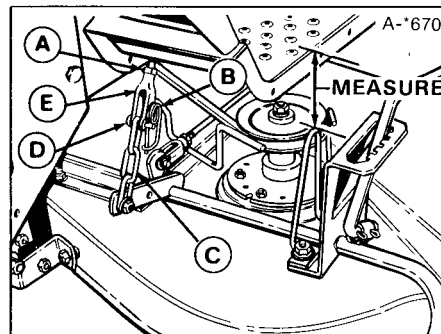

Figure 38. Lift Assembly - Small Lift Lever
2. Measure the distance between top of upstop bracket and bottom of footrest (figure 38). The measurement should be 2-13/16.
3. To adjust, disconnect clevis (E) from chain. Loosen nut (A) and turn clevis to raise or lower mower. Re-connect chain to check measurement. When correct, tighten nut against clevis.